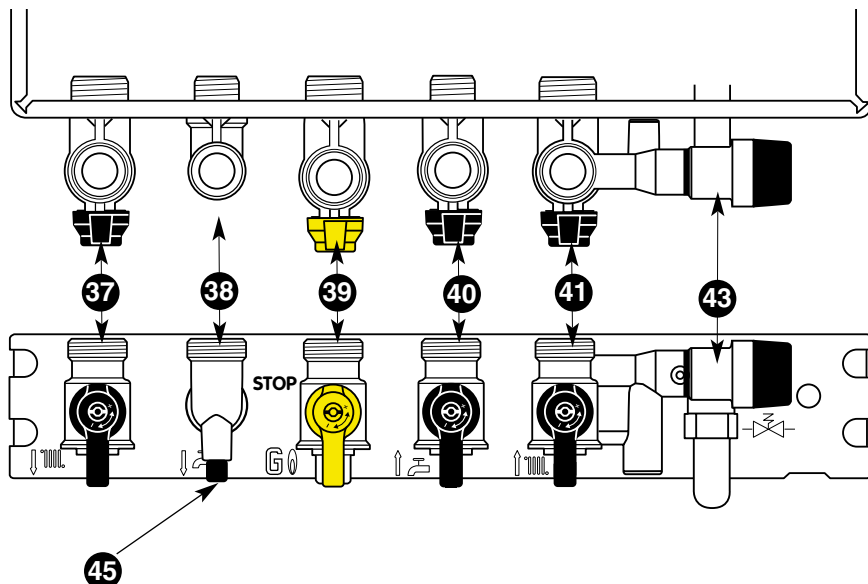

Fig. 21
Connecting bracket (Taps shown in the open position) (Fig. 21)
3. Open the gas tap **39** (Fig.21).
Note : The configuration of the C.H. system can generate some gravity effect when the boiler is set to the D.H.W. mode only. It may result in a temperature rise of the heating pipes close to the boiler (or eventually a radiator). To avoid this, it is possible to close the heating flow isolating tap **37** (Fig.21) during the summer period (Central Heating switched off) Don't forget to open it before switching on the Central Heating mode again.
- Shut off the gas service tap **39** (Fig. 21)
- Drain the water from the boiler with the D.H.W. drain screw **45** (Fig. 21)